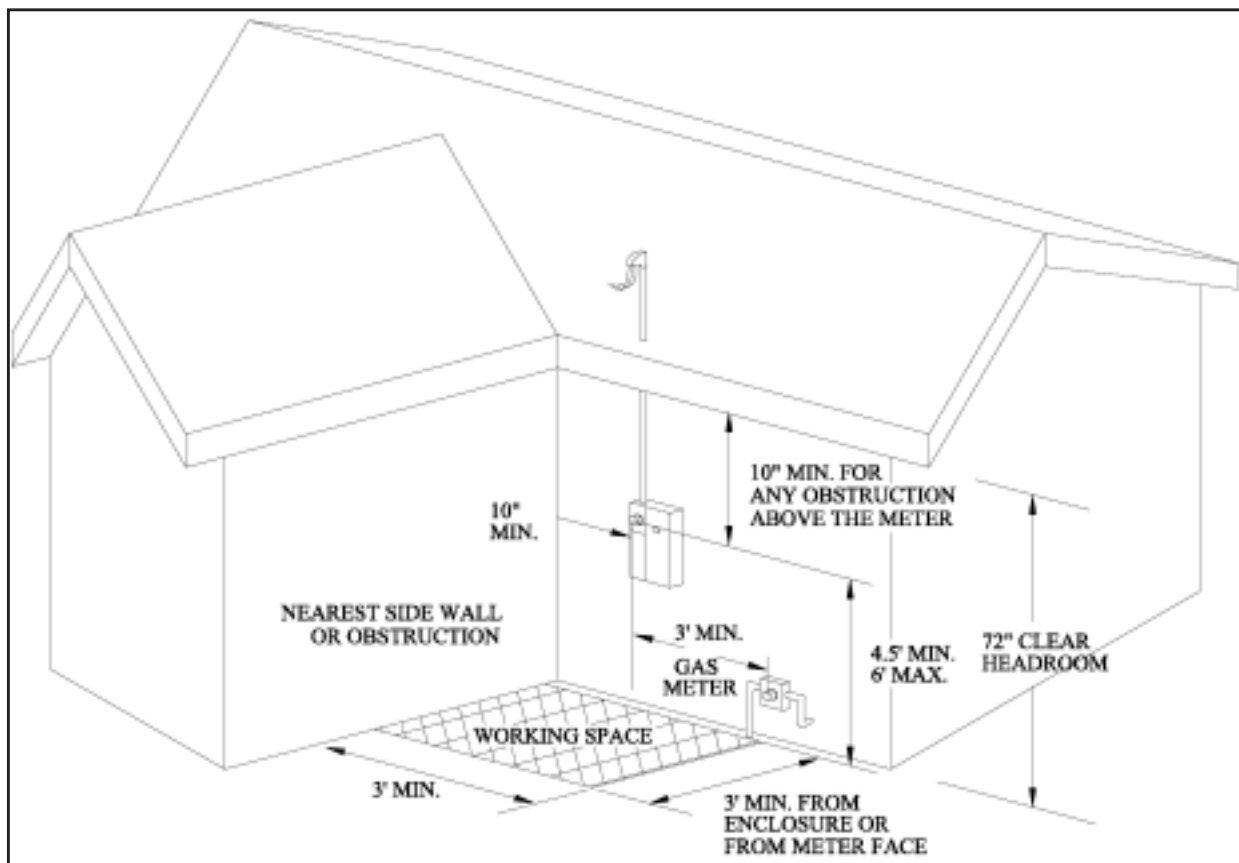

Figure 1-13. Meter socket minimum clearances.
A minimum clearance of three feet is required between service lines and windows, doors, porches, fire escapes, or similar openings. A minimum horizontal clearance of 3 feet is required between electric service equipment and natural gas metering equipment. See Figure 1-13.
- A working space of 36 inches wide by 36 inches deep is required around the meter. See Figure 1-13. This working space is to be kept clear of any obstructions including landscaping.